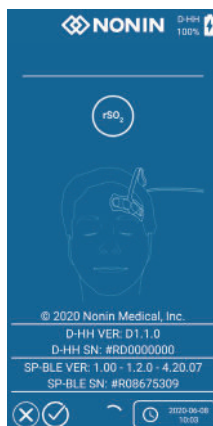

Figure 20. *Start-Up Screen - Select File Delete Confirm icon*
2. Tapping the File Delete icon **once** will cause the Delete button and File Transfer button to be replaced by the 'check mark' and 'X' icons shown in **Figure 20**.